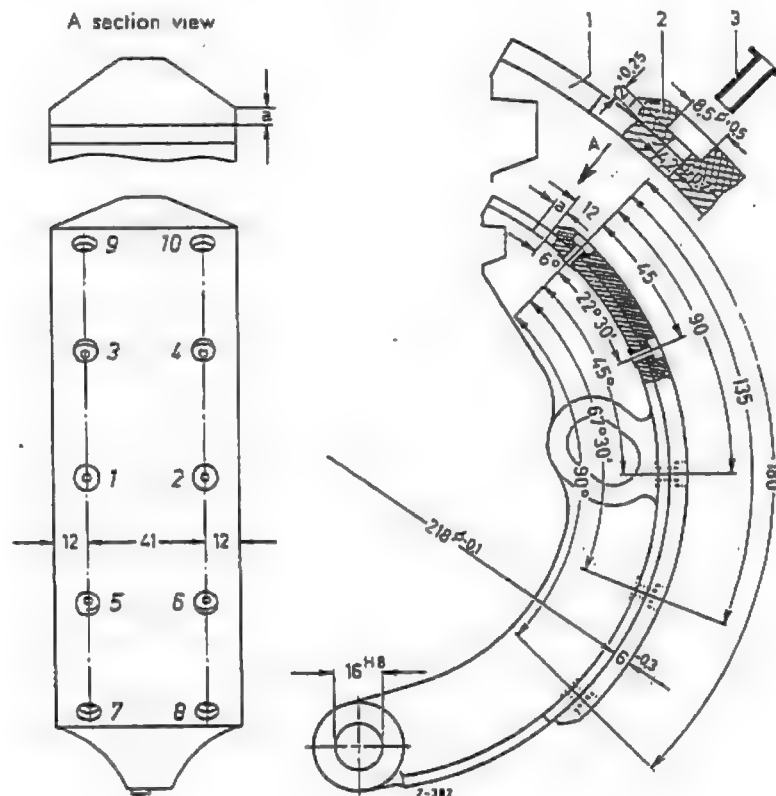

Fig. 42-22/1
2. If in countries outside Germany it should be difficult to import brake shoe assemblies, it is possible to use special linings that can be riveted to the brake shoes. Completely remove the old lining, together with the cement, from the brake shoes (grind off the lining or, if necessary, chisel or file it off). After the surface of the brake shoes has been thoroughly cleaned of all traces of cement, the brake linings and the brake shoes must be drilled according to the drillhole diagram below. If the brake linings are already provided with rivet holes, the drillhole pattern is transferred to the brake shoes and holes are drilled accordingly (Fig. 42-22/1).